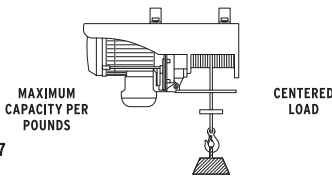

FIG.7
5. To raise loads of - x pounds and to a 39,37' height, only use the lifting hook (figure 7).